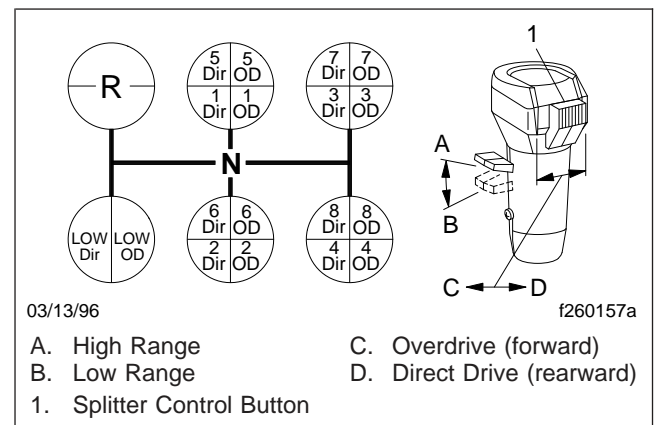

Fig. 14.2, Eaton Fuller 18-Speed Transmission Shift Pattern
2. Position the range preselection lever down, into low range. See Fig. 14.2.
3. Make sure the splitter control button is in the direct (rearward) position. See Fig. 14.2.
Shift upward from low overdrive to 1st direct by first moving the splitter control button into the direct (rearward) position (**Fig. 14.2**). Move the shift lever, double-clutching, to the 1st gear position.
To shift from 5th direct to 5th overdrive, move the splitter control button (**Fig. 14.2**) into the overdrive (forward) position, then immediately release the accelerator. Press and release the clutch pedal. After releasing the clutch, accelerate again.